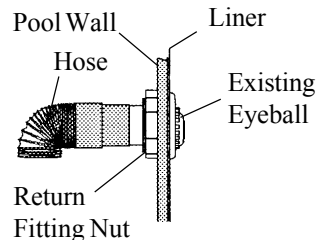

Figure 4.
4. Remove the existing eyeball fitting from the return fitting on your pool wall, see Figure 4.